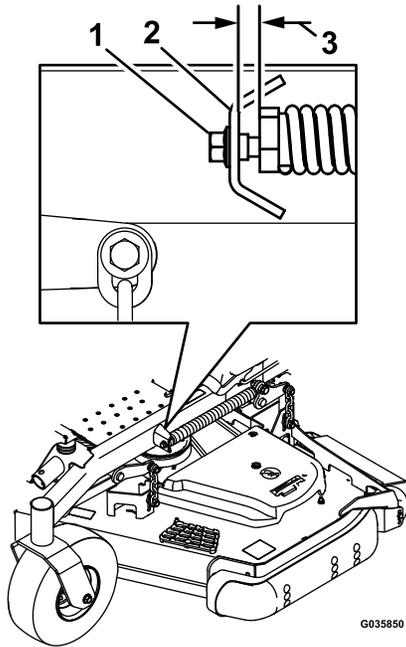

Figure 96
- B. Slowly loosen the adjusting screw on the lift-assist spring until you can remove the screw (see Figure 96).